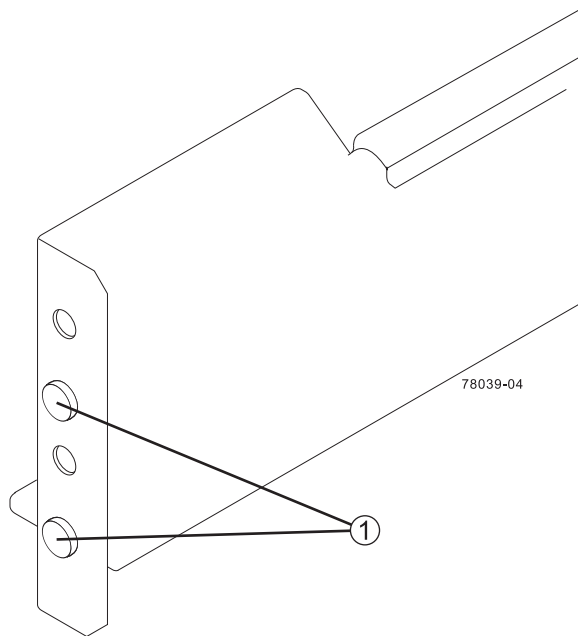

Figure 1-22 Support Rail Alignment Spacers Example
3. Make sure that the alignment spacers on the front flange fit into the mounting holes in the rack, see Figure 1-22 on page 28.